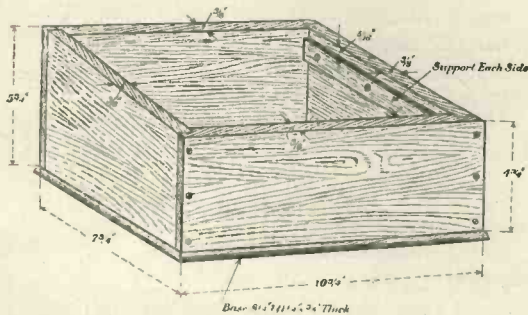

Fig. 4.—The containing box.
- One containing box or cabinet made of any suitable wood to the dimensions given in Fig. 4 and stained and polished to suit the taste of the individual reader.